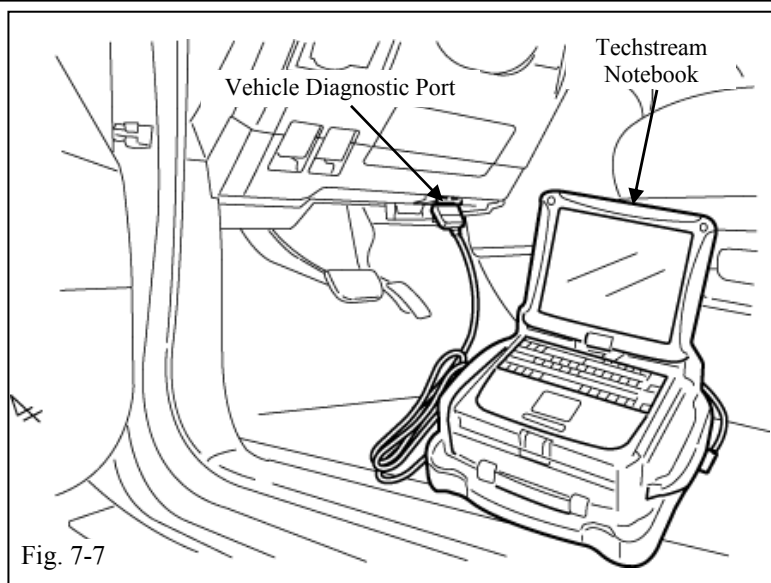

Fig. 7-7
- (m) Connect the Techstream Notebook to the Vehicle's Diagnostic Port. (Fig. 7-7)